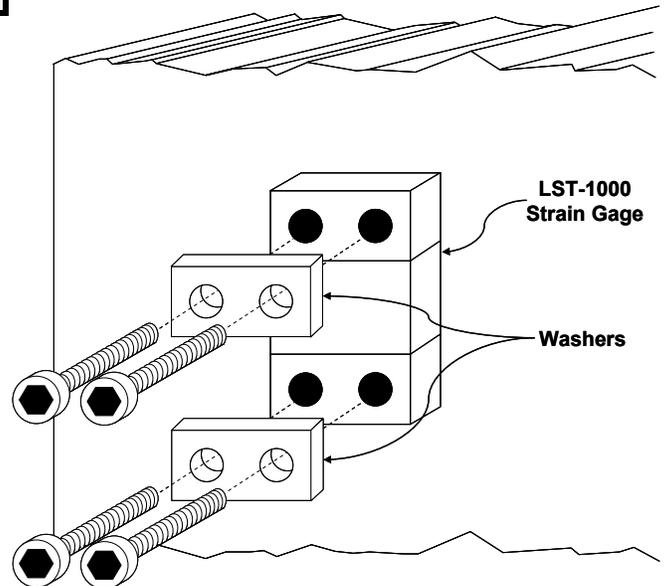

Figure 24: LST-1000 Strain Gage Mounting
- 7) Mount the strain gage as shown in Figure 24. Make certain that the washers provided with the strain gage kit are placed *over* the strain gages, *not under them*. Torque the 1/4 x 28 bolts to 150 in-lbs. A calibrated torque wrench is the preferred tool to torque the bolts.